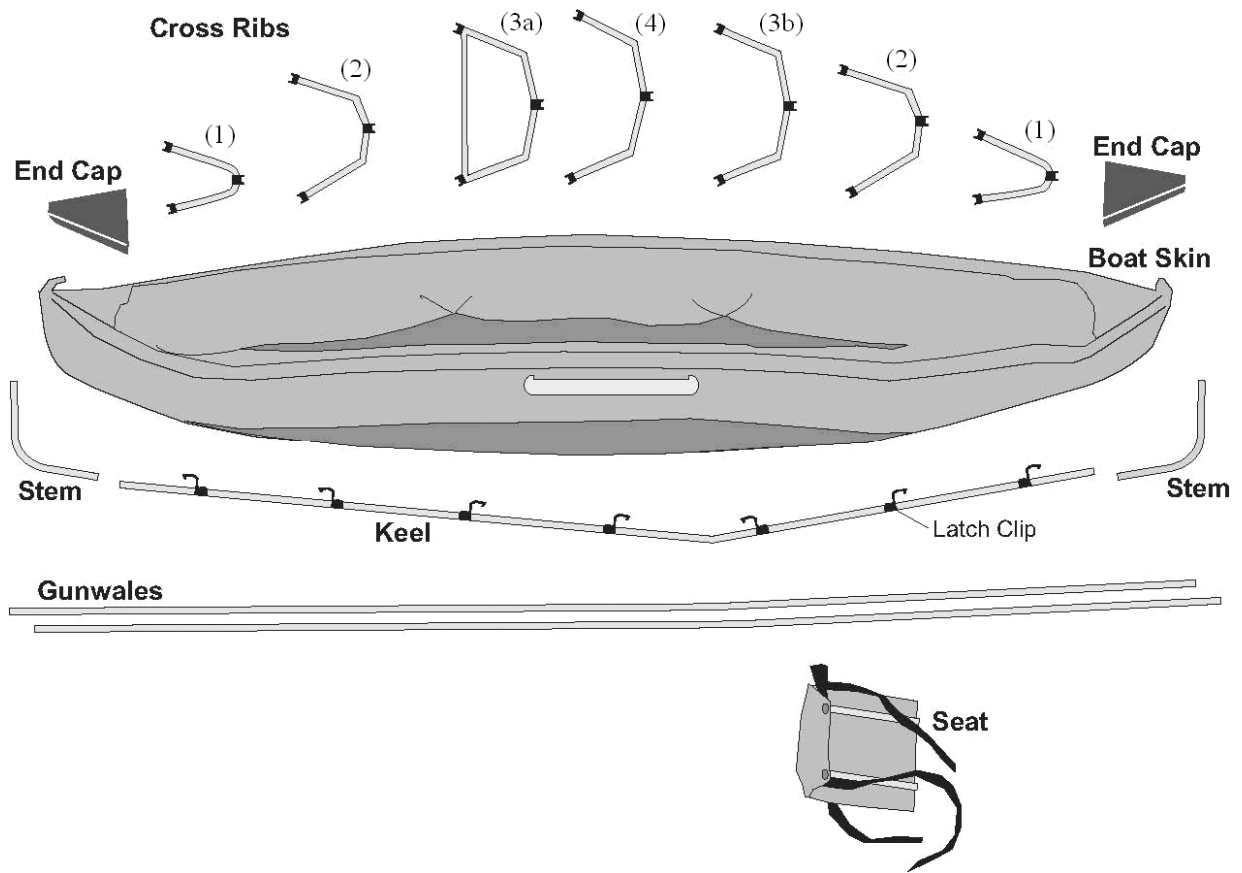
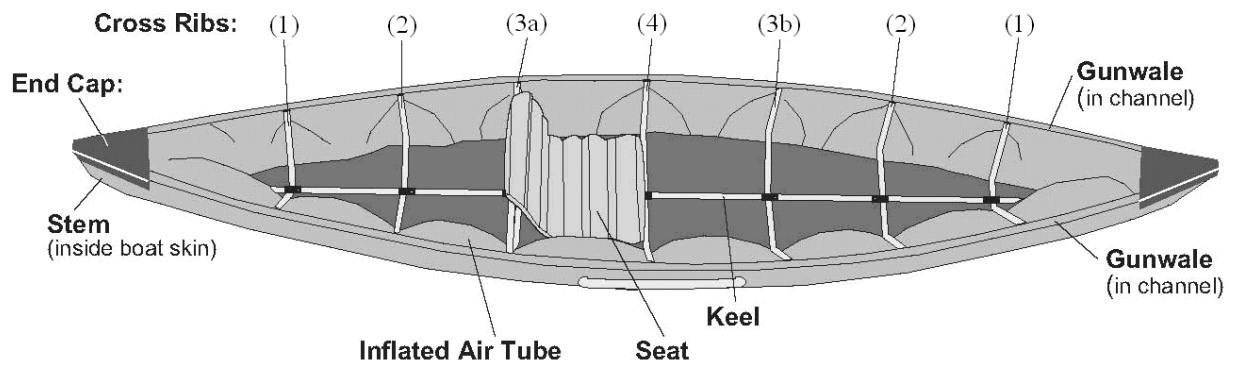

Figure 1, Parts
Figure 2, Assembled
**NOTE!** We recommend that you study this manual carefully before you start the assembly procedure! When assembling the Puffin Sport or the Puffin Saco, please refer to Figure 1 and Figure 2 of this manual.